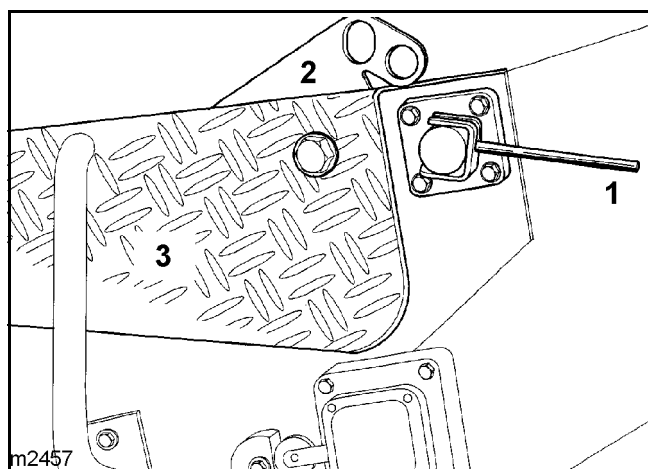

Fig. 197 Covering for hopper
1. Unlock the safety bolt (1) (**Fig. 197**).
2. Lift the cover (3) until the bolt can be slid into one of the holes on the locking bar (2).